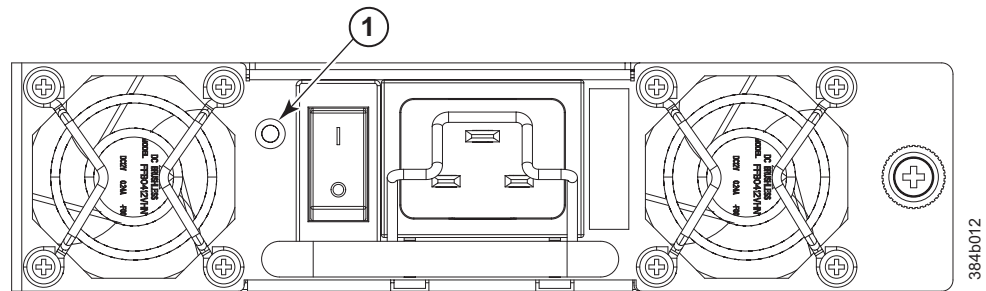

Figure 28. Power supply
1. Check the LED indicators on each power supply (see Figure 28). The LED patterns may temporarily change during POST and other diagnostic tests; for information about how to interpret the LED patterns, see Table 11. Be sure to check both power supplies.